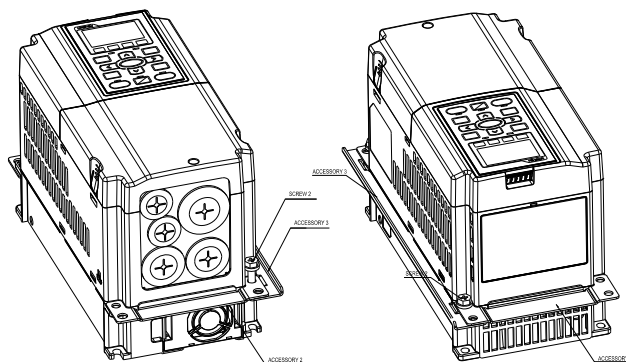

Figure 2
2. Install accessory 2&3 by fastening 2 of the screw 2 (M6) (figure 2). Screw torque: 25~30 kg-cm / [21.7~26 lb-in.] / [2.5~2.9 Nm]